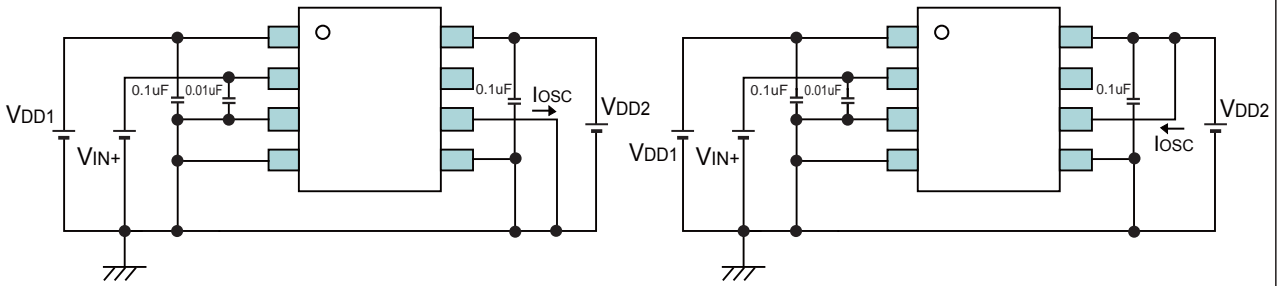

Fig.6 CMR Test Circuit
*2 Common Mode Transient Immunity (CMR) is specified by the rate of rise / fall of a pulse applied between GND1 on the input side and GND2 on the output side (pins 4 and 5) by using the circuit shown in **Fig. 6 CMR Test Circuit**. CMR is defined at the point that clock signals are corrupted.